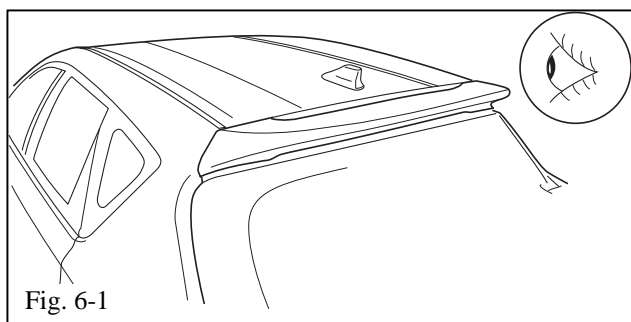

Fig. 6-1
- (a) Check the rear wind deflector for proper fitment (Fig. 6-1).